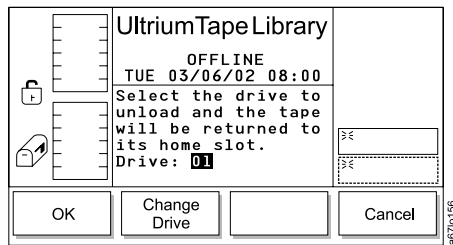

Figure 188. Unload Dialog
3. Press the button below the **Unload** softkey. The Unload Dialog displays (see Figure 188 on page 156).